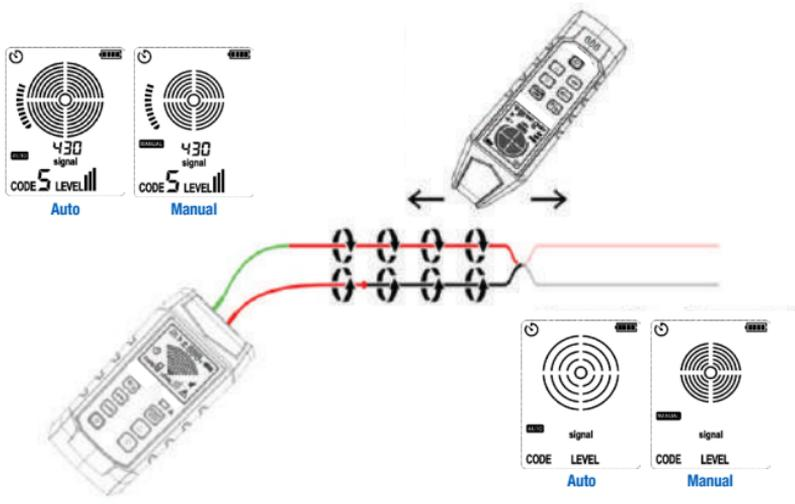

Figure 8.3.1a – Identify Shorts by Tracking the Cable
1. Connect the test leads of the transmitter to the circuit, as shown in **Figure 8.3.1a**.